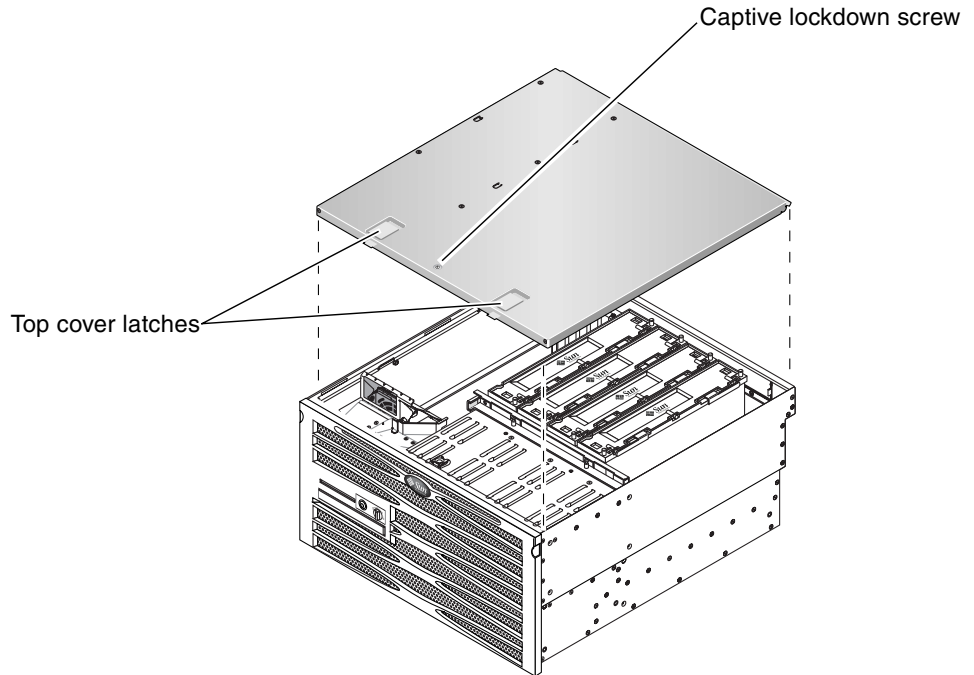

FIGURE 2-3 Locating the Latches on the Top Cover
The lockdown screw is located on the chassis face above the hard drives, between the two latches (FIGURE 2-3).
5. Pull the latches up to release the top cover from the chassis, then lift the cover up and off the chassis (FIGURE 2-3).
2. Grasp the latches and lower the top cover onto the chassis (FIGURE 2-3).